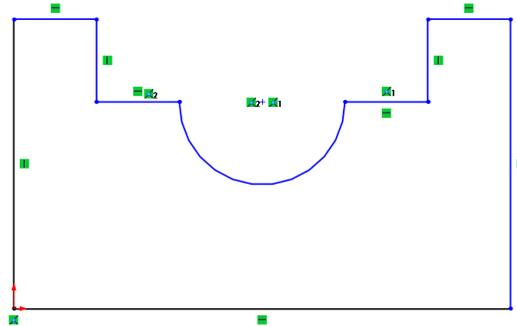

Figure 2-64 Final sketch for Tutorial 2
- d. Draw the sketch using the **Line** tool, refer to Figure 2-64.
18. Press the F key to modify the drawing display area. The final sketch for Tutorial 2 with the grid display and the **Shaded Sketch Contours** settings turned off is shown in Figure 2-64.